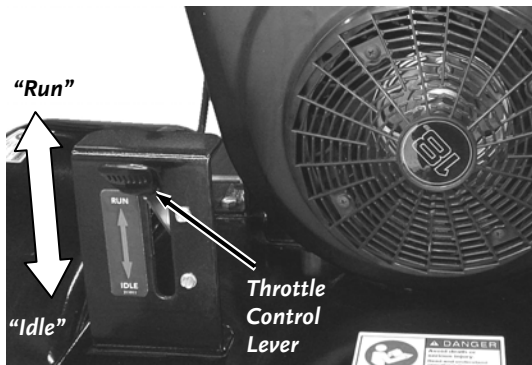

Figure 17
3. Ensure that the Throttle Control Lever is in the "IDLE" position (**Figure 17**).